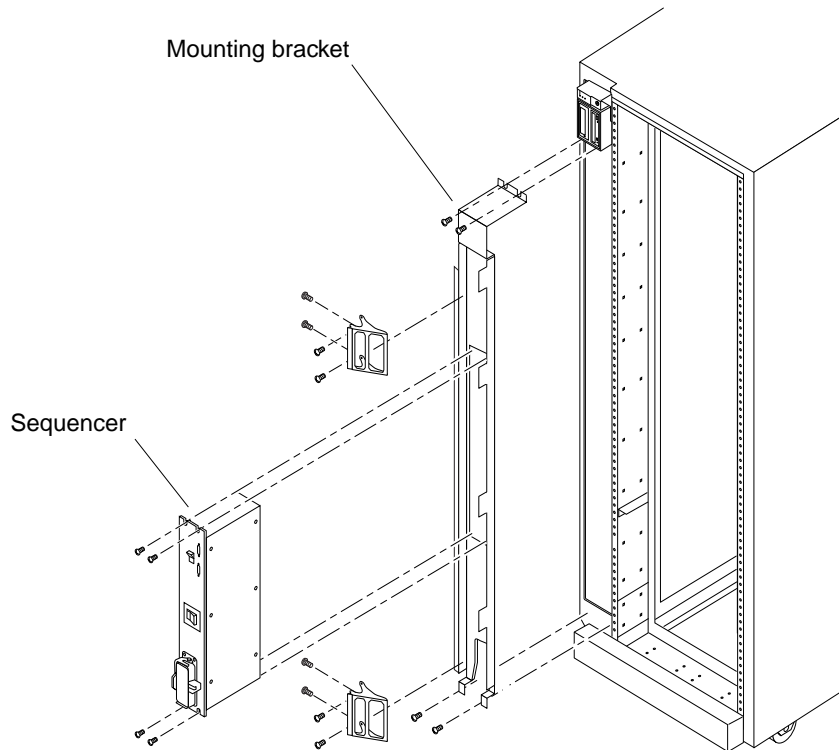

FIGURE 1-2 Installing the Mounting Bracket and Power Sequencer on the System Cabinet
- FIGURE 1-2 Installing the Mounting Bracket and Power Sequencer on the System Cabinet 3